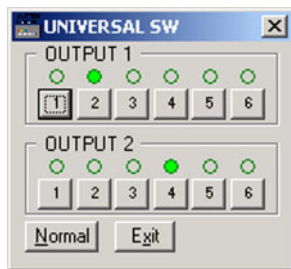

Figure 4-5 — Executive Mode window
2. From the drop-down menu, select Executive Mode to enable Executive mode and display the Executive mode window (see figure 4-5).